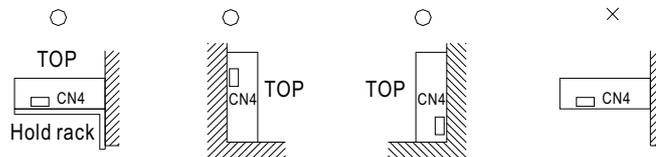

Figure 4-2 Mounting alternatives
- ⊙ The power supply unit should be mounted on a holding rack for extra support as shown in Figure 4-2.